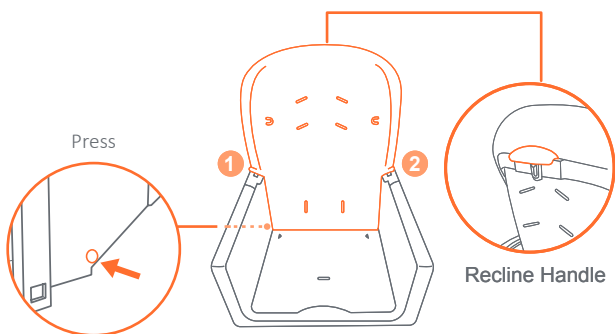

Fig. 5c
- **Press Pins In:** Ensure the seat parts latched together in the upright position. Insert the pin all the way into each side of the seat base and test the recline feature (Fig. 5c).